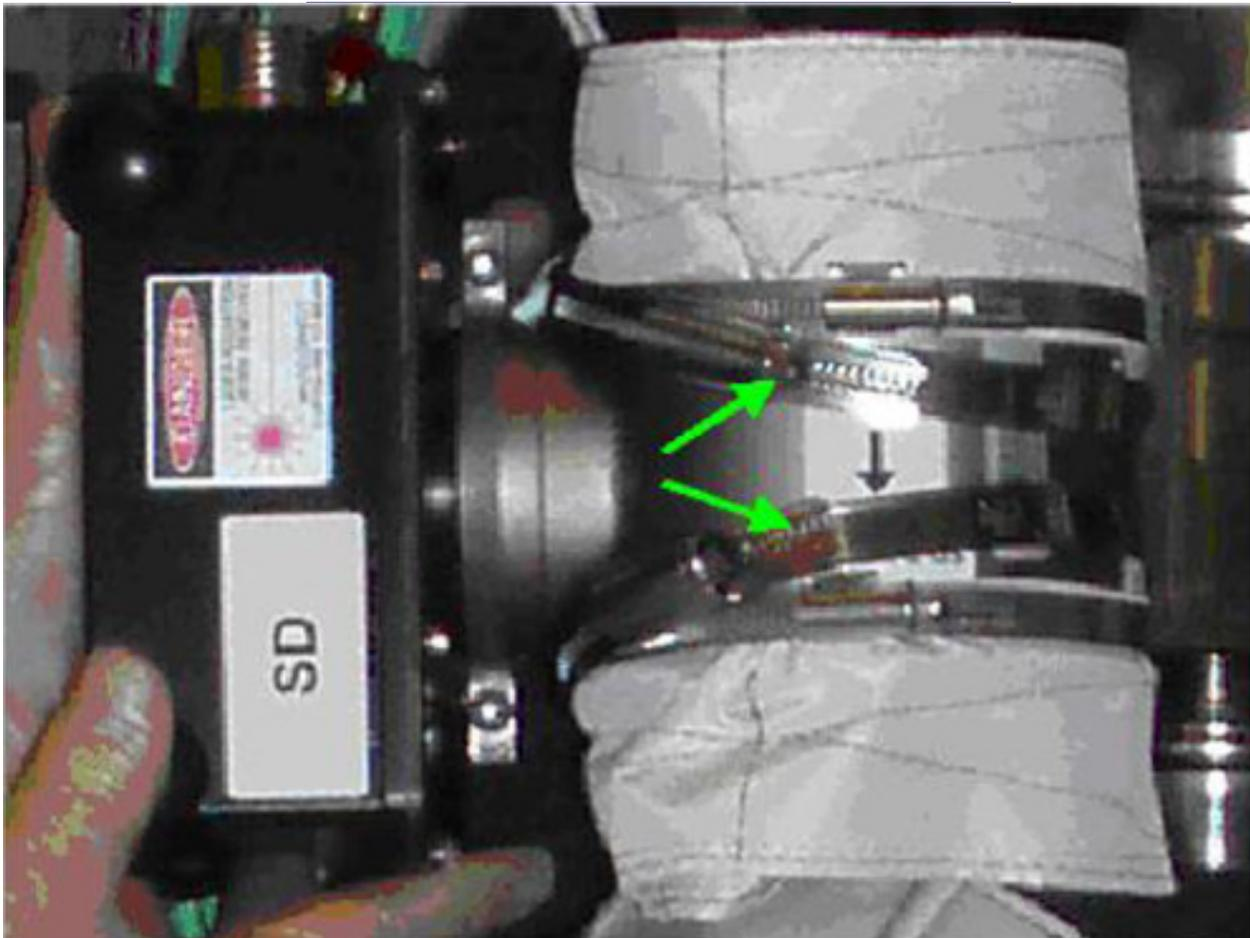

Figure 2. T-junction sleeve clamps launch configuration
- 5.5 Loosen clamps (two) that are in temporary configuration (refer to green arrows in Figure 2) (M4 (7mm) Socket, 1/4" drive, Driver Handle 1/4 " Drive)